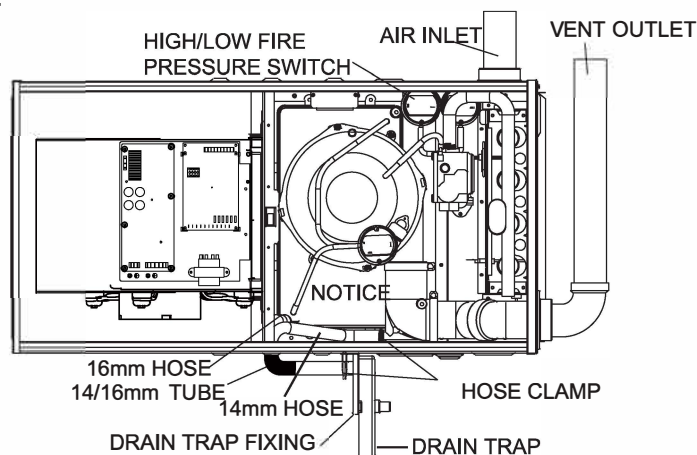

Fig. 6-9 Horizontal Right Side Installation
1. Air discharge to the right and vent through furnace top panel (see Fig. 6-9)